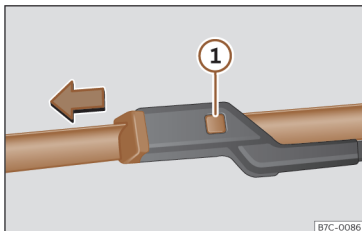

Fig. 38 Changing the windscreen wiper blades
- Press and hold release button >>> **Fig. 38** ❶ and pull gently on the wiper blade in the direction of the arrow.